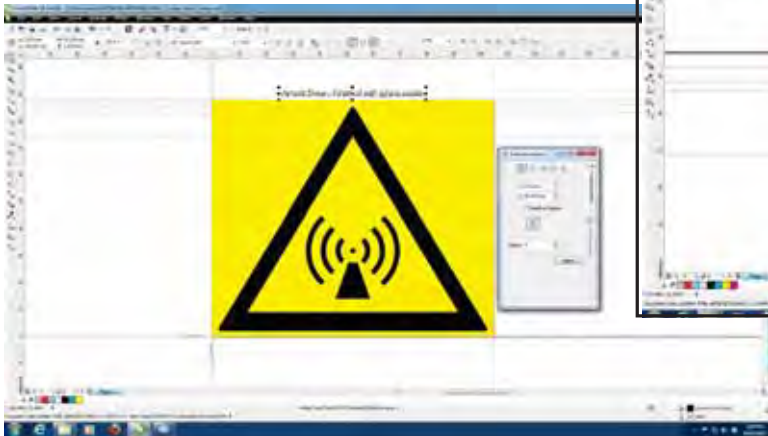

Fig.20
- 8. Now draw a triangle as in Fig 20 and trim all three circles.
We now have our 'radio symbol'. It's now just a matter of zooming out, selecting your triangle and putting it back into place. If you double click on the 'rectangle' tool you will put a rectangle around the edge of your page. Fill it with yellow and put it at the back and you have your finished symbol as in Fig 20.